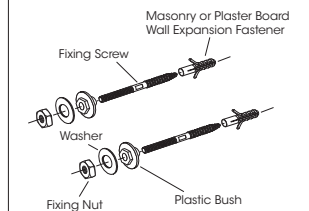

Fig. 2
3. Insert expansion fasteners into the drilled holes in masonry or plaster board wall. Screw fixing screws into the wall using the flats located on the screws section of the stud and spanner as shown in Fig. 2. Allow 50mm ( $2$ " ) of thread to protrude from the finished wall.